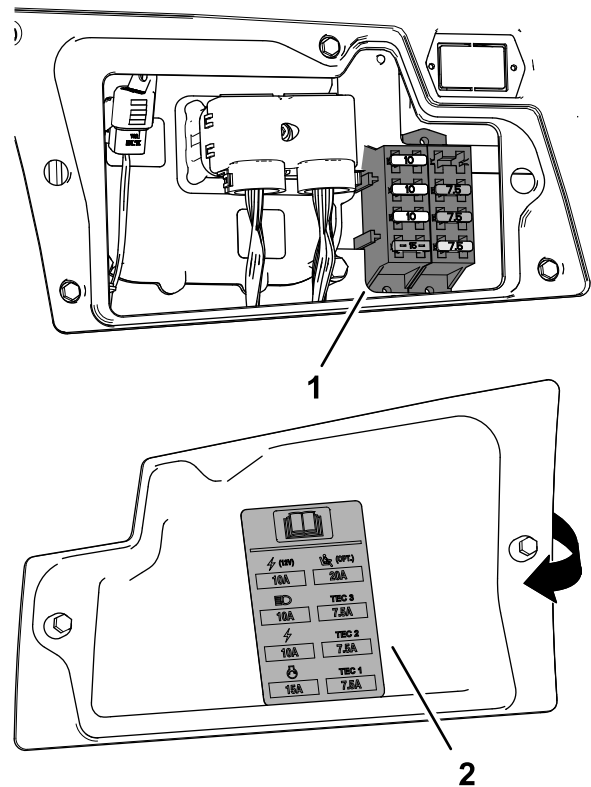

**Figure 129**
2. Open the 2 latches that secure control-arm cover to the control arm, and remove the cover (Figure 129).